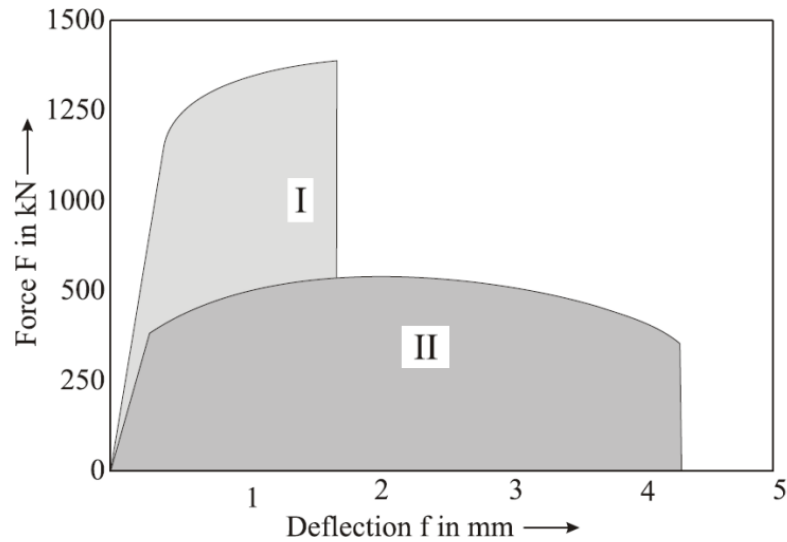

Figure 1 Force–deflection curves for the Charpy test
2.4 The force–deflection curves of two Charpy impact tests are shown in Figure 1. Both of the tests were performed at 30°C. The areas under these two curves are the same, i.e. $I=II$. Which steel shall have a lower transition temperature? Please explain the reason.